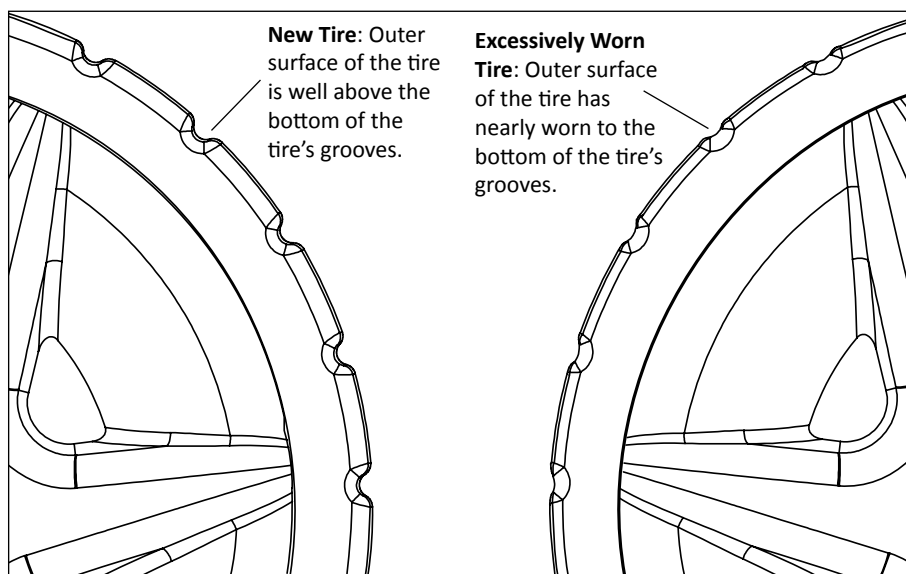

Figure 14: Tire Wear Comparison
- The tires are not excessively worn. See **Figure 14** on the next page.
After prolonged use it may become necessary to replace the 'LIL REBEL® Aboveground Suction Side Pool Cleaner's rubber tires. When the tire surface has worn into the tire's grooves the tire is in need of replacement. See **Figure 14**.